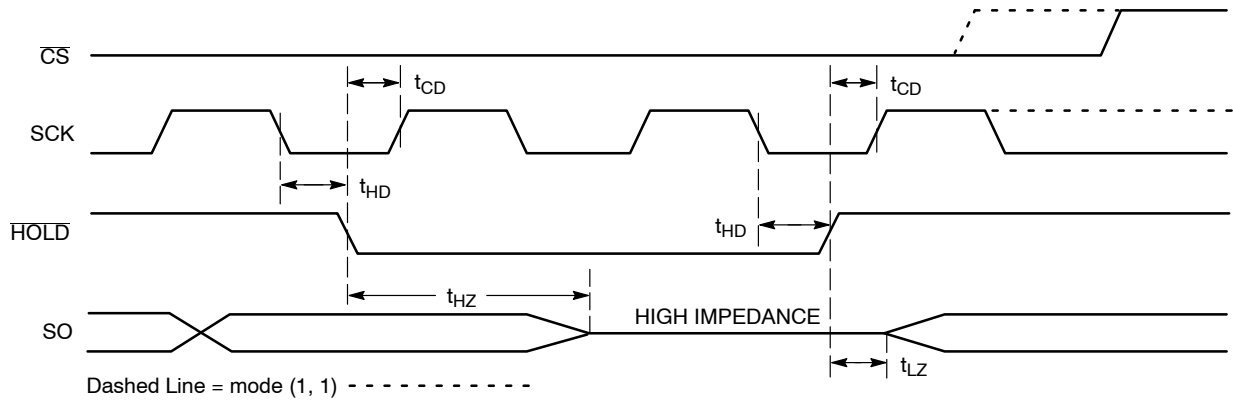

Figure 10.  $\overline{\text{HOLD}}$  Timing
The  $\overline{\text{HOLD}}$  input can be used to pause communication between host and NV25xxx. To pause,  $\overline{\text{HOLD}}$  must be taken low while SCK is low (Figure 10). During the hold condition the device must remain selected ( $\overline{\text{CS}}$  low). During the pause, the data output pin (SO) is tri-stated (high impedance) and SI transitions are ignored. To resume communication,  $\overline{\text{HOLD}}$  must be taken high while SCK is low.